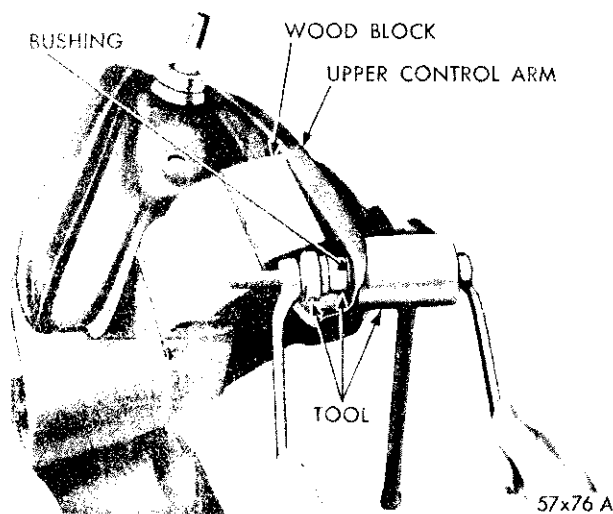

Fig. 17—Removing Upper Control Arm Bushing (Typical)
(2) Assemble Tool C-3710 over bushing and press the bushing out of the arm (from inside out) (Fig. 17). Be sure the control arm is firmly supported if a hammer and drift is used in place of the tool.
(1) Slide the upper control arm into position (Figure 17). Install the arm washers and nuts and tighten the nuts 55 to 65 foot-pounds torque.
(2) Slide the upper ball joint stud into position in the steering knuckle, and install the washer and